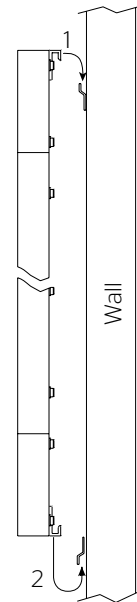

Figure 7
5. Position the screen with the attached surface onto the top wall bracket as shown in Figure 7. Gently push down at the center of the bottom frame rail to hook onto the lower wall bracket.
6. Position the screen with the attached surface onto the top wall bracket as shown in Figure 7. Gently push down at the center of the bottom frame rail to hook onto the lower wall bracket.